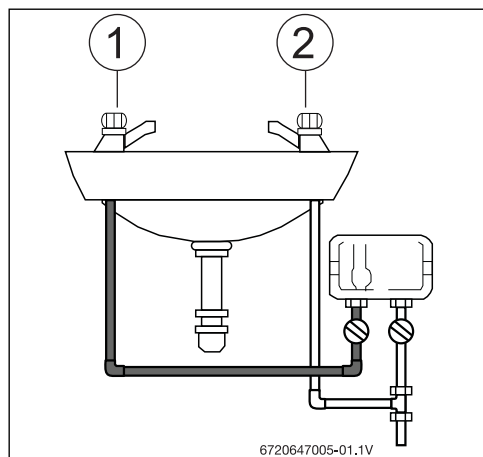
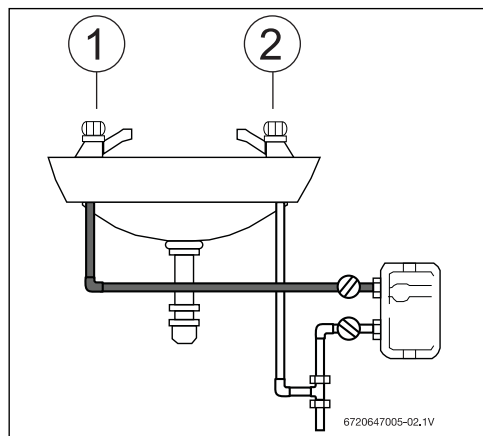
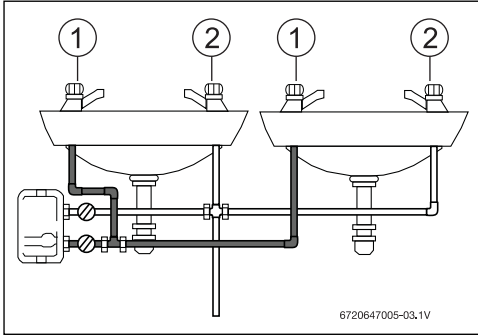

Fig. 6 Example of installation (front view)
Fig. 7 Example of installation (front view)
Fig. 8 Example of installation (front view)
- The heater must only be wall mounted and positioned with the water connections located either at bottom or the right side of the unit see Fig. 6. Under no circumstances should the heater be mounted differently.
- Mount only as shown in Fig. 6, Fig. 7 and Fig. 8 with the water connections located either at the right side, left side or bottom of the unit.